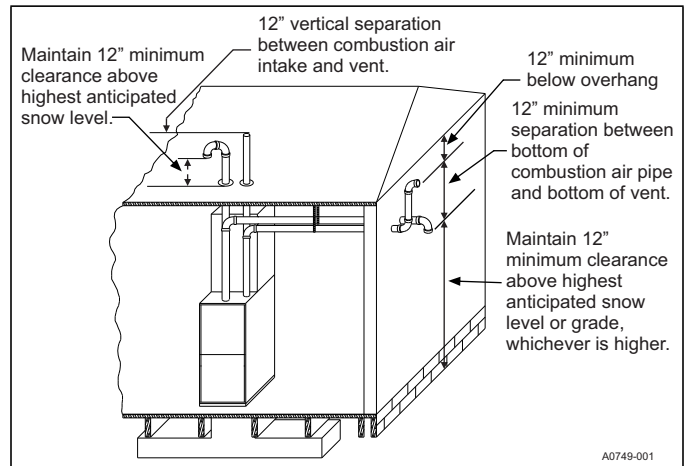

**FIGURE 29:** Termination Configuration - 1 Pipe
The combustion air side of the single pipe configuration shown in Figure 36 is referred to in these instructions as ambient combustion air supply. Follow the instructions for ambient combustion air installations, paying particular attention to the section on air source from inside the building. The vent for a single pipe system must be installed as specified in the venting section of these instructions with both vents terminating as shown in Figure 29. Each furnace must have a separate vent pipe. Under NO circumstances can the two vent pipes be tied together.
2. **AMBIENT COMBUSTION AIR:** Combustion air is supplied from the area surrounding the furnace through openings in the furnace casing. The combustion air and the vent pipes are not terminated in the same atmospheric zone. Refer to Figure 29 for vent terminations. Refer to "Ambient Combustion Air Supply" for proper installation. Refer to Figures 36 and 37.